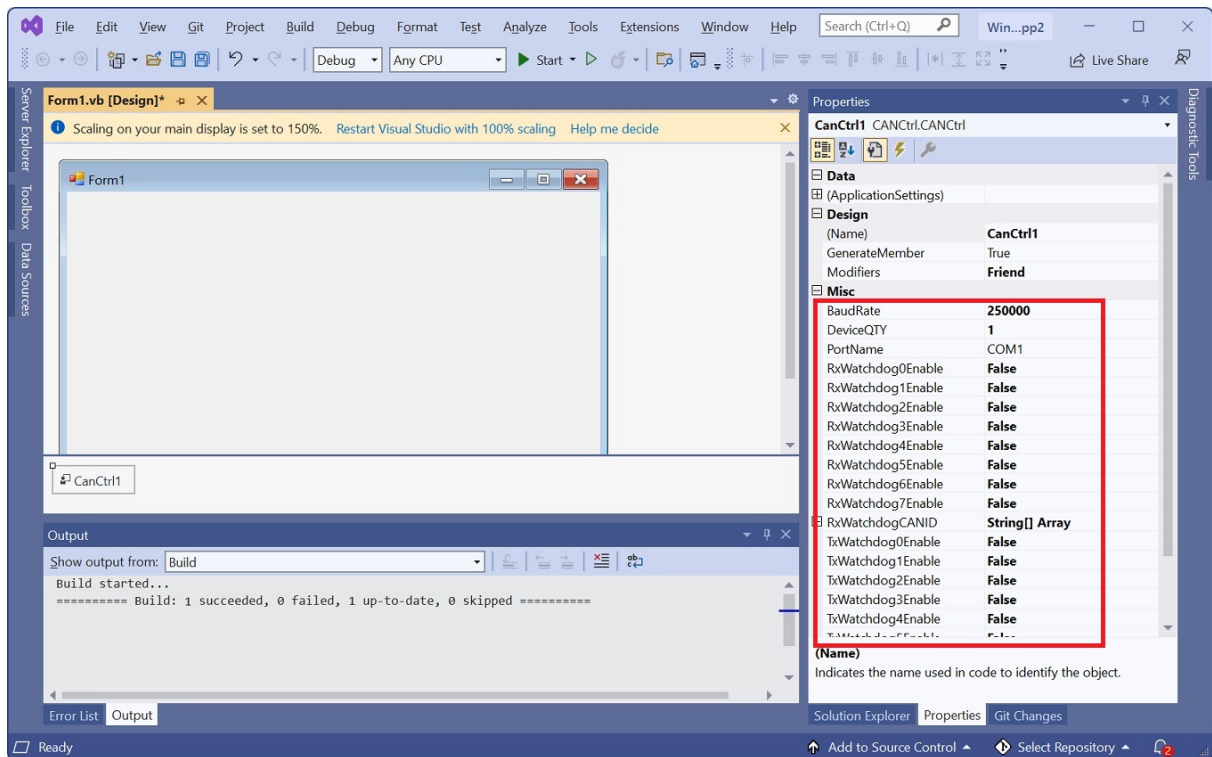
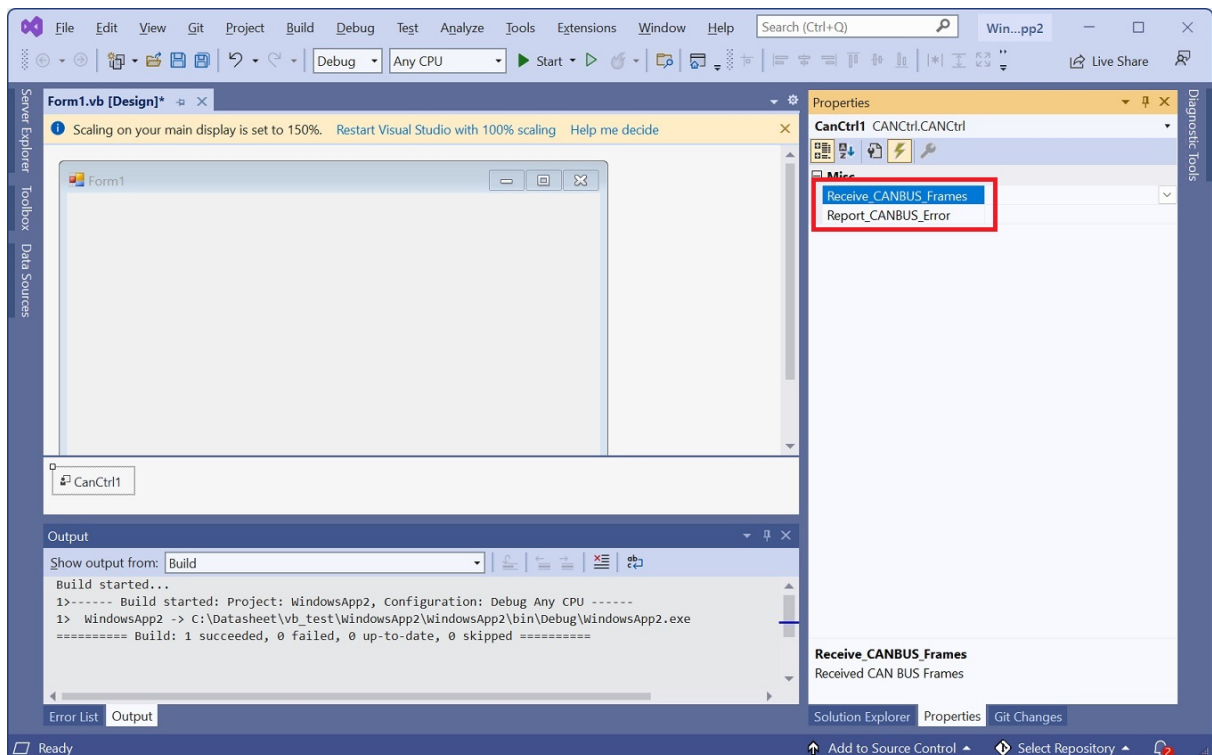

Fig.12 Properties
Fig.13 Events
13. Build your project. it successes. Please see Fig.12 below
Now, we have installed CAN BUS component in Visual Studio IDE environment, You can see many properties for CANCtrl component in Fig. 12 inside red rectangle. In Fig.13 red rectangle, you will see 2 events for CANCtrl component.
All properties can be viewed in Fig.12 red rectangle.